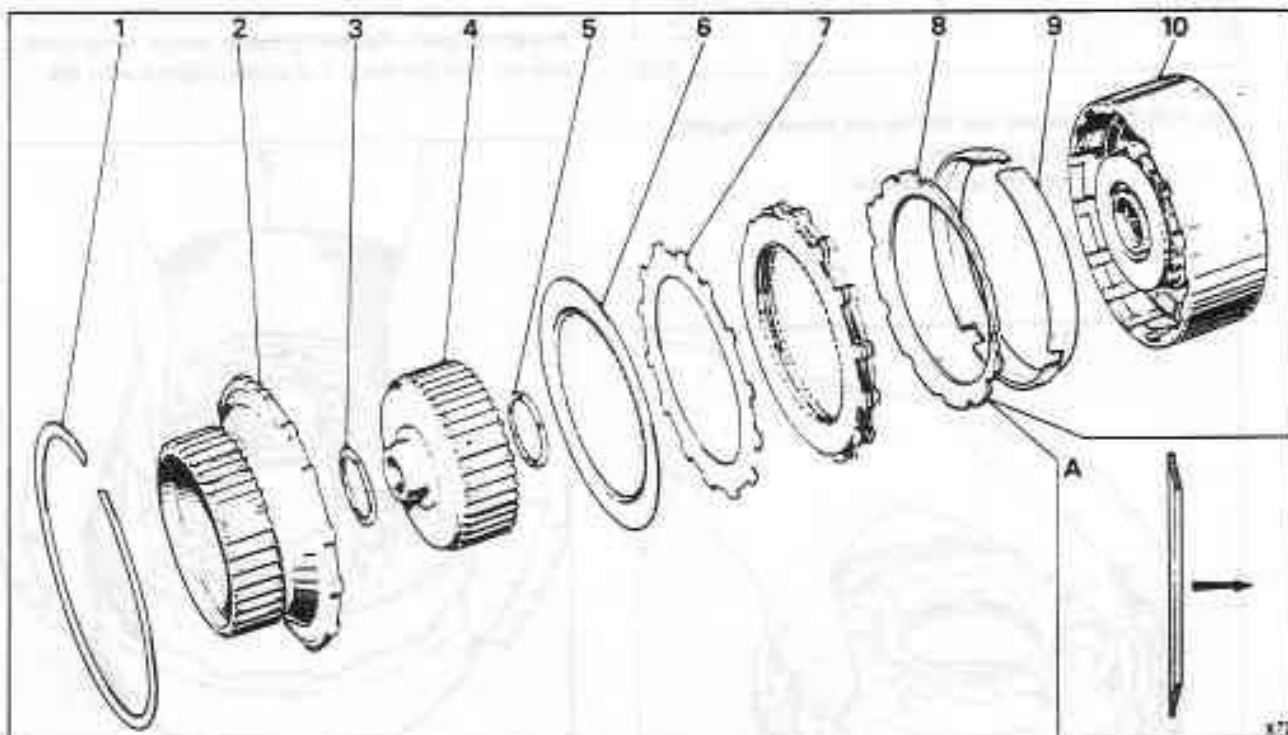

Fig. T18-5 Forward clutch assembly
2. Remove the forward clutch hub. Remove the thrust washers, one from each side of the hub (see fig. T18-5).
17. Commence by fitting the dished steel plate with the concave side uppermost (away from the clutch piston), then alternate flat steel and composition plates (see fig. T18-5).